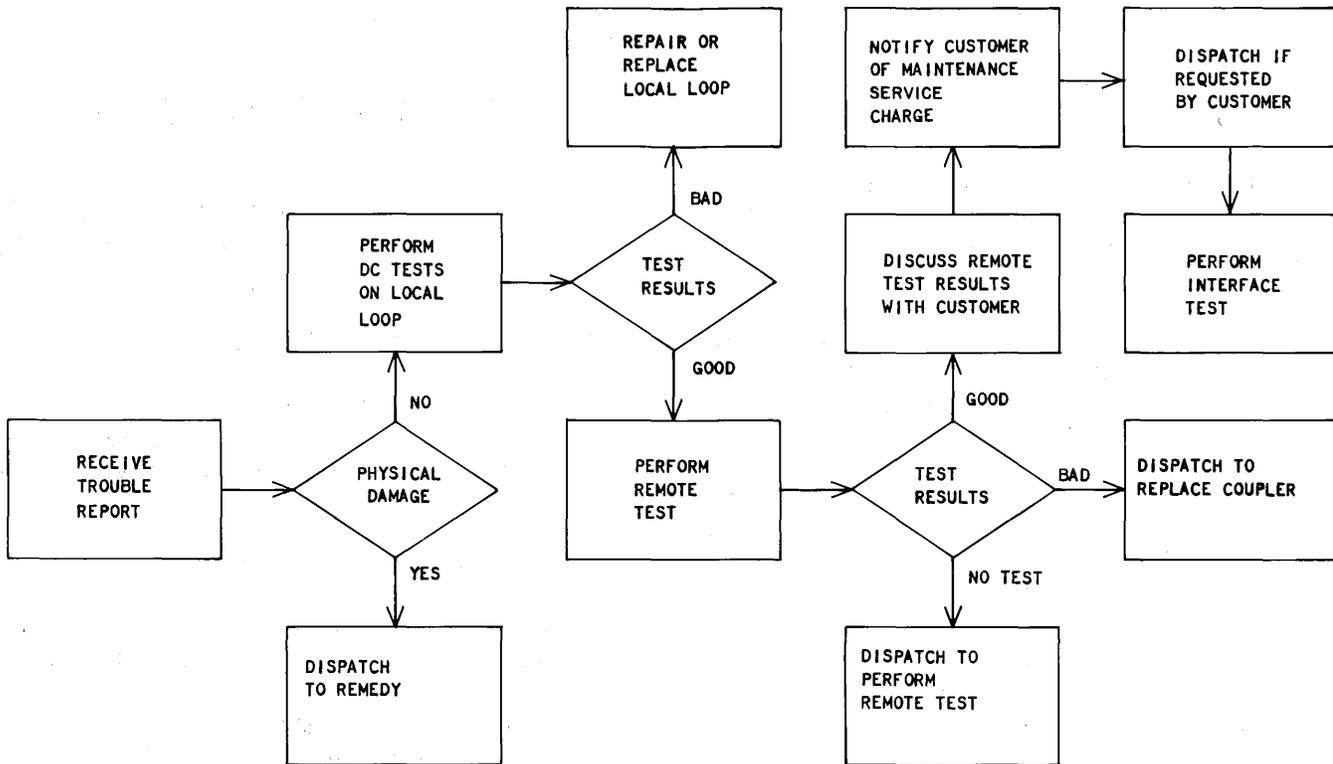

Fig. 13—Basic Activities Prior to Dispatching Employee
5.05 The PSC must analyze the information provided by the customer to determine if a trouble condition does exist and the most probable cause. Available tests (ie, normal dc loop test and remote test of coupler) should be performed to determine if a telco employee must be dispatched to customer premises. The conditions which could warrant a maintenance visit and efforts which lead to each are shown in Fig. 13.